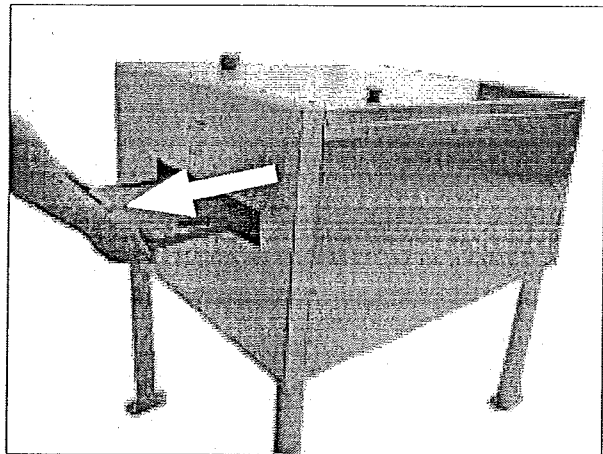

Figure 6 - Pulling a Backboard from the Exit Portal
7. Push the backboard through the backboard washer until it protrudes from the exit portal, then move to the exit end and pull the backboard out of the portal. (Figure 6).